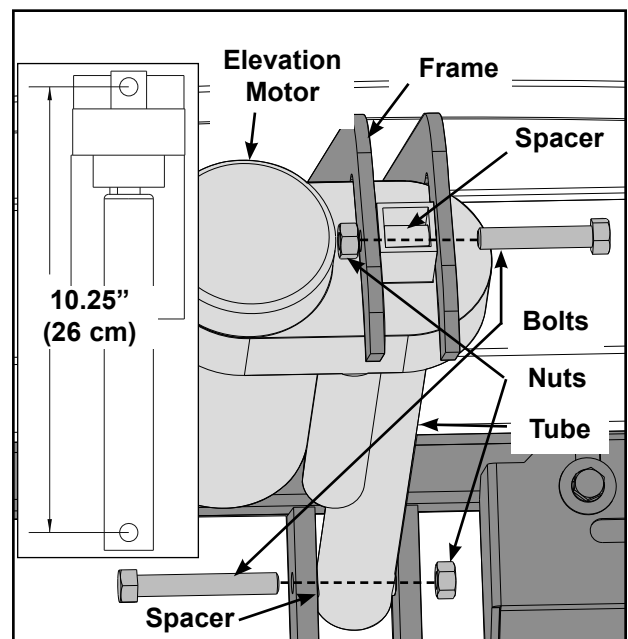

Figure 23
- Slide the top bolt and spacer into the slots and attach the hex nut as shown in Figure 23. Connect the elevation motor to the lower board. Plug the unit into the outlet. Turn the power switch to ON (I). The elevation motor will automatically set to 0%.
- Turn the tube with fingers until it measures 10.25" (26 cm) from the center of the top hole to the center of the bottom hole. See Figure 23.
- B. Slide the bottom bolt and spacer into the slots and attach the hex nut as shown in Figure 23.